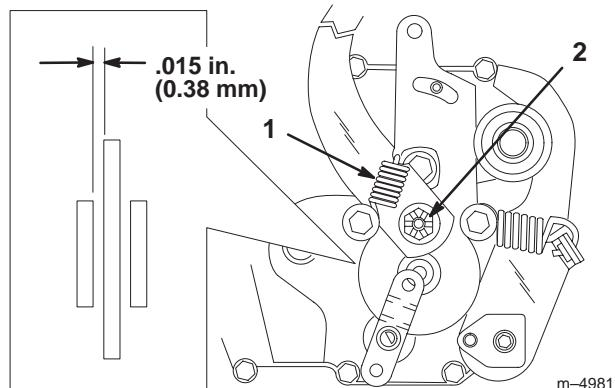

Figure 22
The brake is on the right side of the rear axle, inside the rear tire (Fig. 22). If the parking brake does not hold securely, an adjustment is required.
2. Remove the brake arm spring (Fig. 22).
3. Remove the cotter pin securing the brake adjusting nut and slightly loosen the nut (Fig. 22).
4. Insert a 0.015 in. (0.38 mm) feeler gauge between the brake disc and brake puck (Fig. 22). Tighten the nut until slight resistance is felt on the feeler gauge when sliding it in and out.